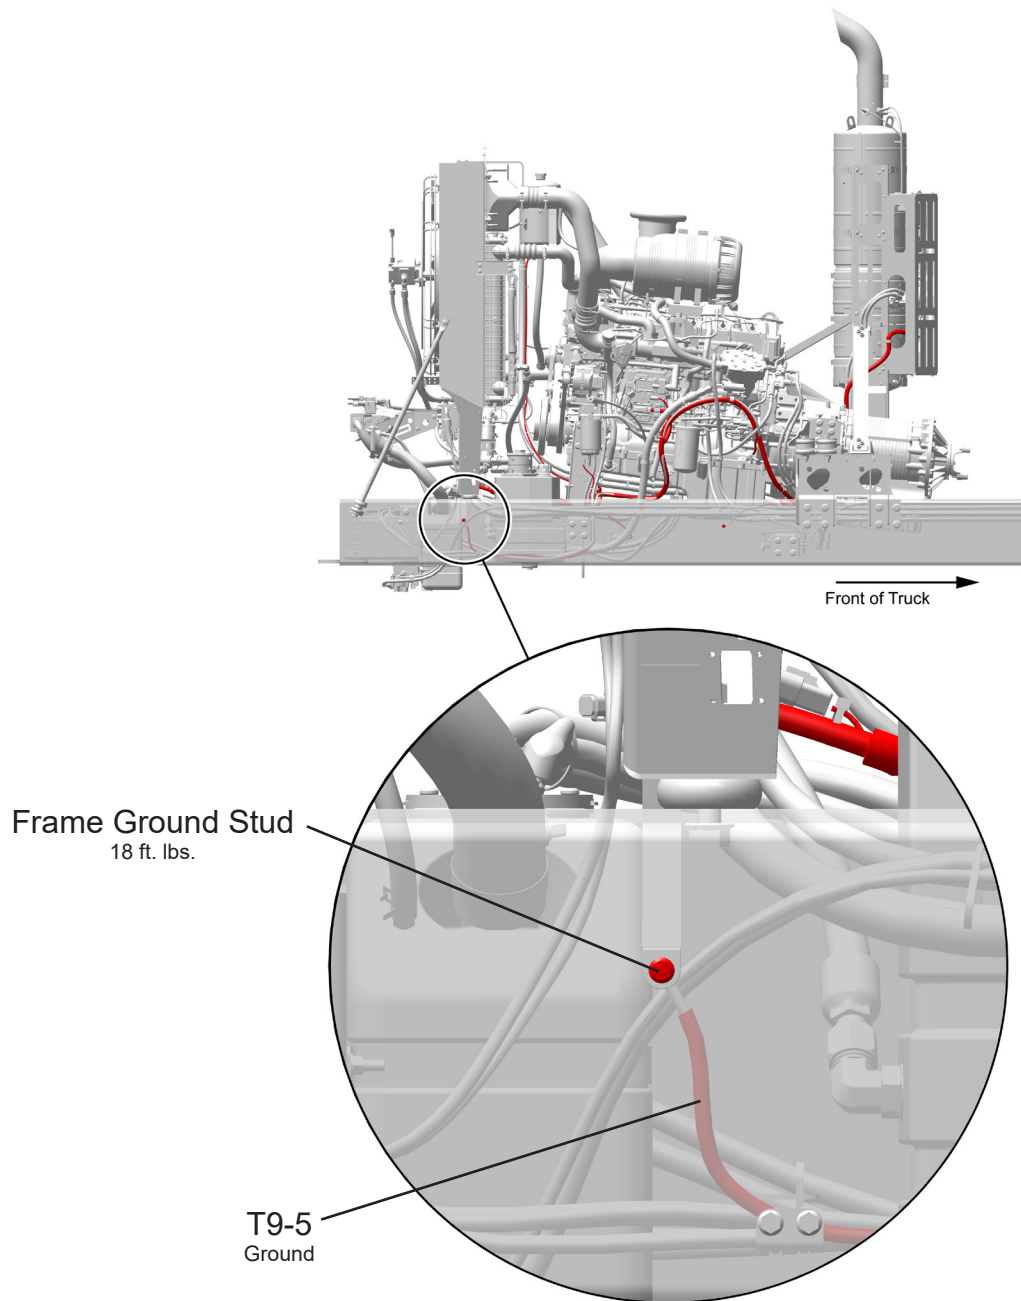

Figure 5
8. Connect ground T9-5 to right side frame ground stud, see Figure 5. Remove RTV for installation of ground T9-5. Apply RTV to completely cover ground after installation of T9-5.